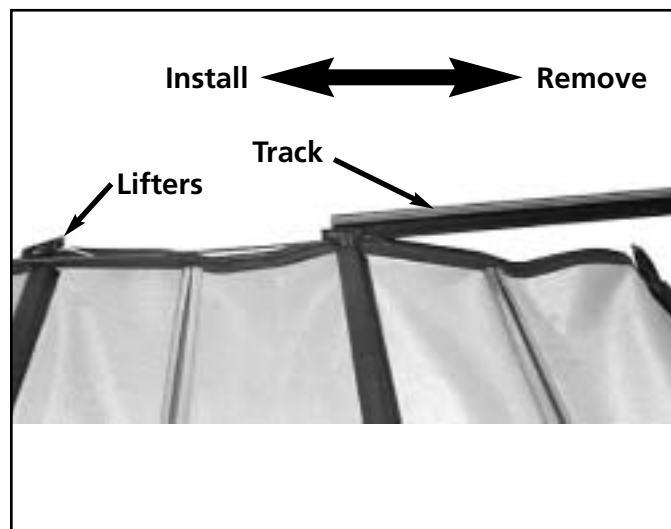

Figure S-83
15. Slide the track over the lifters and insert it into the rail. See figure S-83.